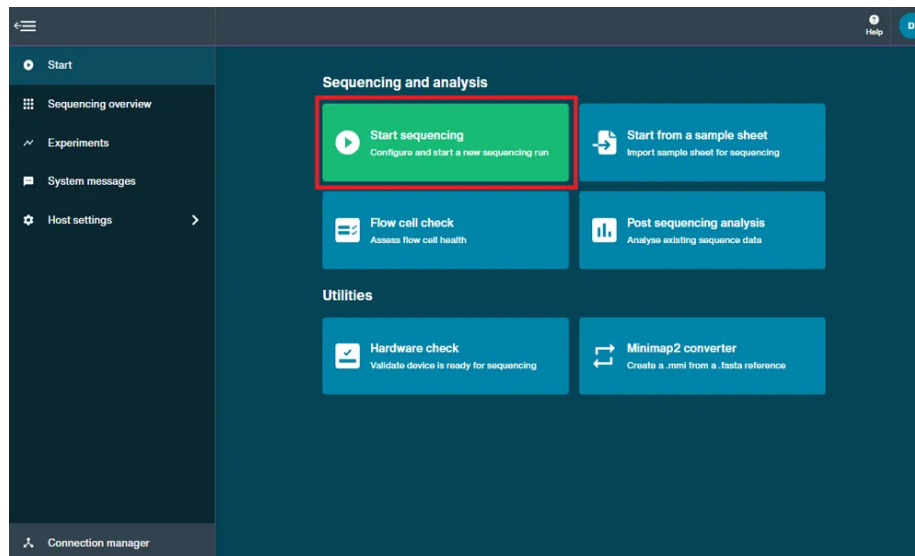

Figure 2.
3.1.6 Navigate to the Start page and click **Start Sequencing** (Figure 2).